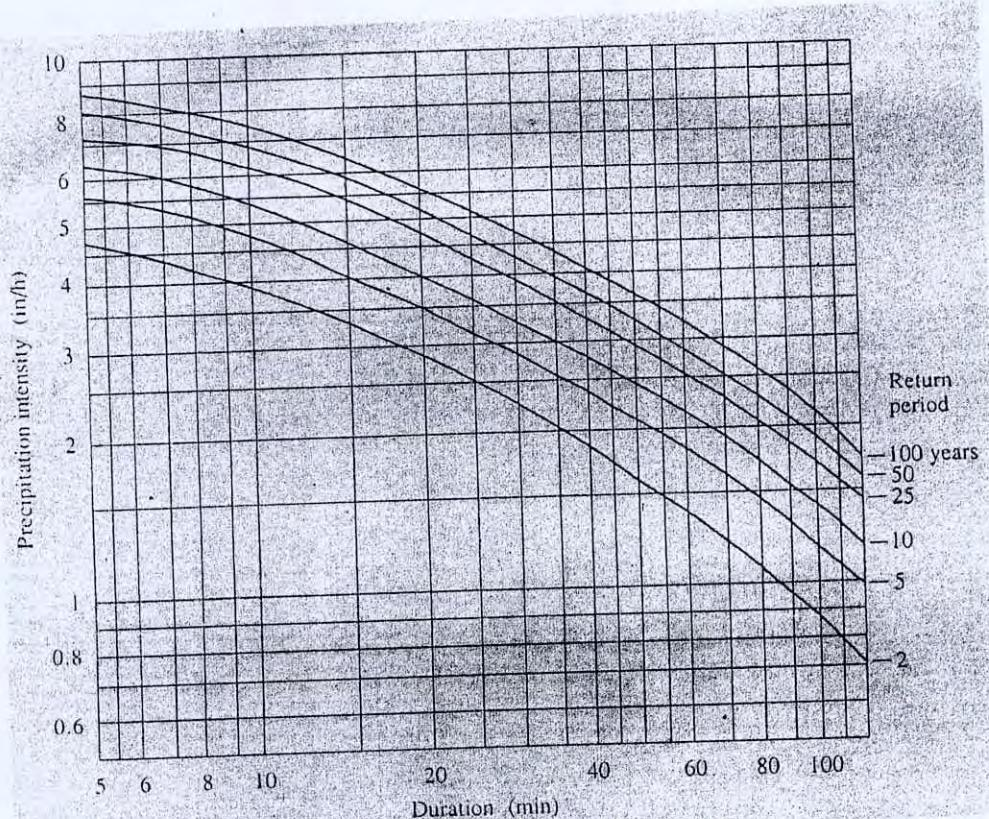

Fig. 1: Intensity-duration-frequency (IDF) curves
- (i) Two runoff coefficients of 0.2 and 0.8 are given for the two catchments. Which runoff coefficients will be applicable to which catchment and why? (5)
- (ii) Find out the time of concentration for catchment A. (5)
- (iii) Compute the peak discharge for catchment A for a return period of 100 years using Rational Method. Use IDF curves shown in Fig. 1. (5)
- (b) Briefly explain the three mechanisms of air mass lifting. (5)
- (c) Write down the factors that affect infiltration capacity and explain in brief. (5)
- (d) Define : (i) Biological water and (ii) Percolation. (5)
- (e) Define : (i) Exceedence Probability and (ii) Return period. (5)